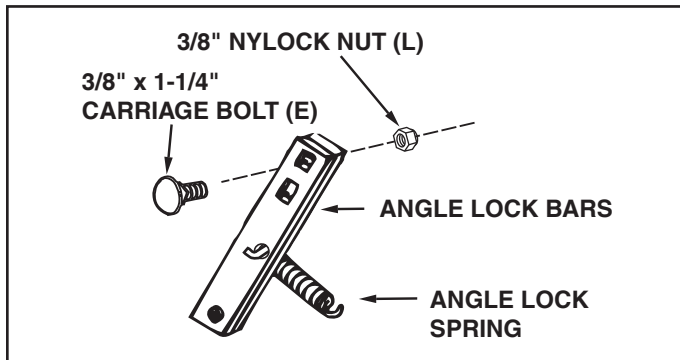

FIGURE 15 (Right Hand Side View)
### STEP 1: (SEE FIGURE 15)
- Assemble a 3/8" x 1-1/4" carriage bolt (E) through the square hole in the cable mount bracket and through the square hole in the angle lock bars. (The carriage bolts should face in opposite directions.) Using pliers hold the cable mount bracket in position, angling down towards the L.H. hole in the channel as shown in figure 15. Secure with a 3/8" nylock nut (L). **Tighten.** Refer to the figure for the correct angle for the cable mount bracket.